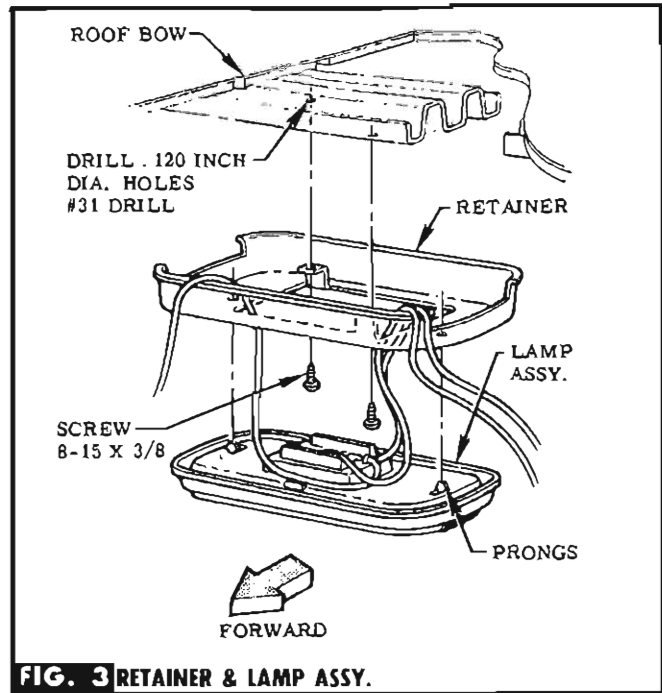

FIG. 3 RETAINER & LAMP ASSY.
STEP 5 POSITION RETAINER ON CENTER OF REAR ROOF BOW & USE IT AS A TEMPLATE TO DRILL HOLES. SEE FIG. 3.
STEP 6 PASS LAMP ASSY. THRU RETAINER & ATTACH RETAINER TO BOW WITH SCREWS PROVIDED. SEE FIG. 3.
STEP 7 DRAW LAMP ASSY. UP TO RETAINER BY PULLING UP ALL LEADS THEN PRESS LAMP ASSY. TO RETAINER UNTIL PRONGS SNAP INTO PLACE. SEE FIG. 3.